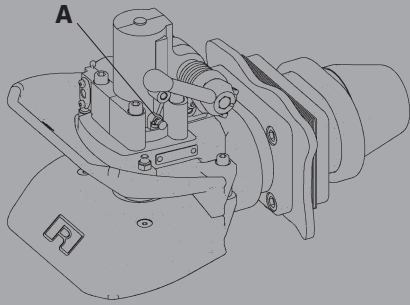

Fig. 5
- Grease automatic unit via lubricating point (A) with coupling open (see Fig. 5). It can also be connected to centralised lubricating system. Bearing requires no further lubrication.
- Close coupling before cleaning with high-pressure washers (see item 2.2).